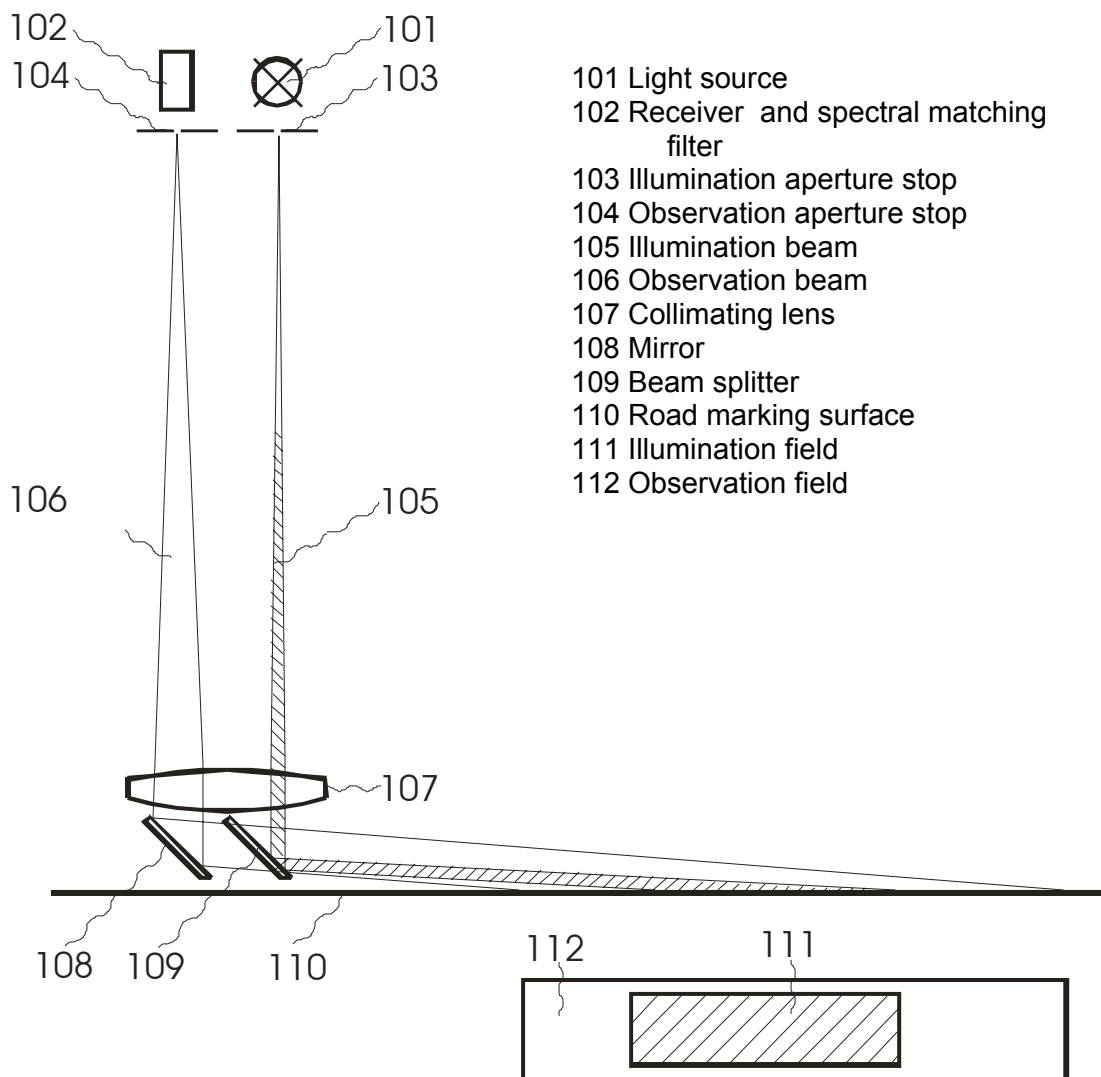

Figure 3: LTL2000S(Q) RL optical system layout
The optical specification complies with EN1436. The spectral sensitivity is eye matched using SMART optical filter designed and produced by DELTA. The functional layout of the LTL2000S(Q) RI optical system is shown in figure 3 below.
Refer to figure 3 for results of the measurements. The R_L value is roughly constant up to the height of 4 mm, but at 5 mm there is some reduction.